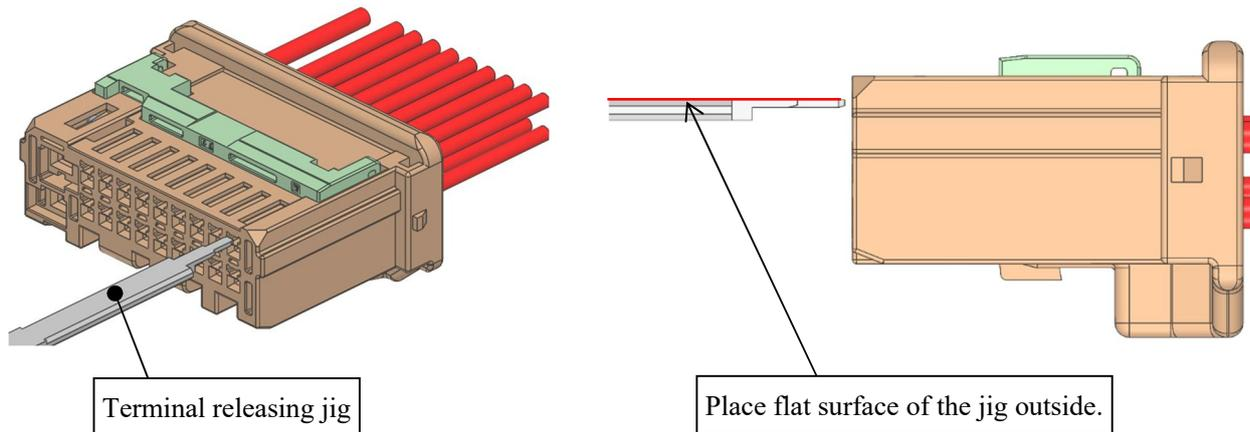

Fig31.Housing and Direction of release
- ① Ensure that the rear holder and the retainer have been removed.
- ② Hold the wire and push in the female terminal lightly. Place the female terminal releasing jig into the releasing apertures of the female housing (see Figs. 31 and 32).